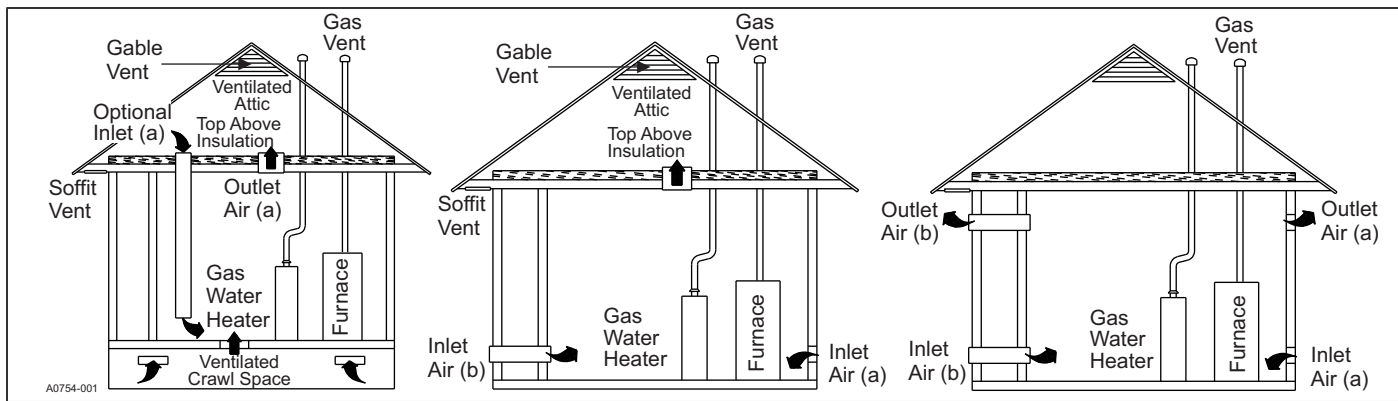

FIGURE 32: Ambient Combustion Air
- **VENTILATED COMBUSTION AIR:** Combustion air is supplied through a PVC or ABS pipe that is connected to the PVC coupling attached to the burner box and is terminated in a ventilated attic or crawl space. The combustion air and the vent pipes are not terminated in the same atmospheric zone. See Figure 32 for attic and crawl space termination. Only the combustion air intake can terminate in the attic. The vent must terminate outside.
See Figure 32 for required attic termination for the combustion air intake pipe. For attic termination, use two 90° elbows with the open end in a downward position. Be sure to maintain 12 in. (30.5 cm) clearance above any insulation, flooring, or other material.